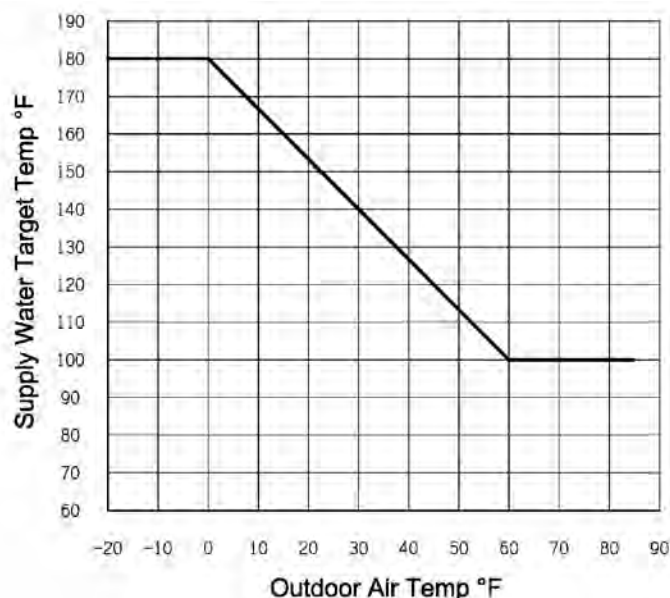

Figure 51: Outdoor Reset Curve
E. If an outdoor sensor is installed, the boiler will automatically adjust the heating zone set point temperature based on the outdoor reset curve in Figure 51. The maximum set point is defined by parameter 4 (factory set to 180°F) when the outdoor temperature is 0°F or below. The minimum set point temperature shown is 100°F when the outdoor temperature is 60°F or above. As the outdoor temperature falls the supply water target temperature increases. For example, if the outdoor air temperature is 30°F, the set point temperature for the supply water is 140°F.
5. Once the flame stabilization period has ended, the MCBA allows the burner to modulate. The actual firing rate is dependent upon the measured current and recent differences between the set point temperature and the supply temperature. If an outdoor sensor is connected to the control module and the boiler is responding to a call for heat, the set point temperature will be determined by the outdoor reset curve shown in Figure 51.